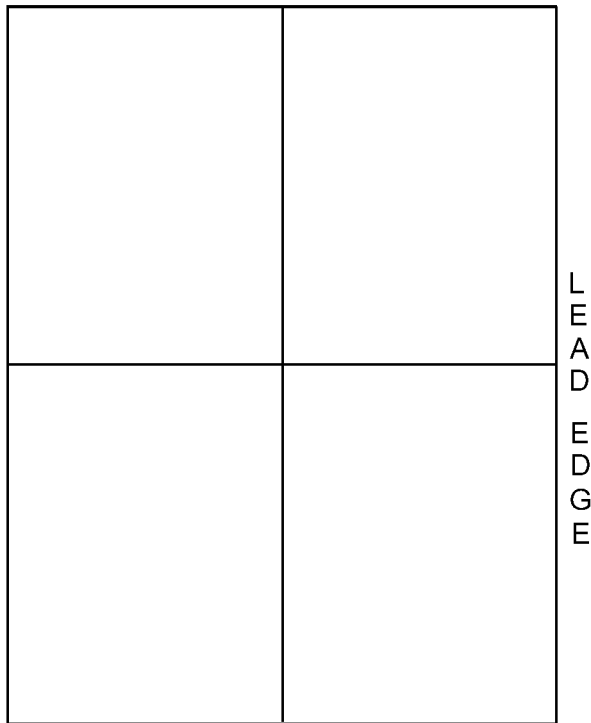

Figure 1 Creating a Test Pattern Original
1. To create a Test Pattern Original, use a plain white sheet of 8.5x11" paper and fold the sheet precisely in half lengthwise and width wise. Then with a straight edge draw a straight line in the lengthwise crease and a straight line in the width wise crease. (Figure 1)